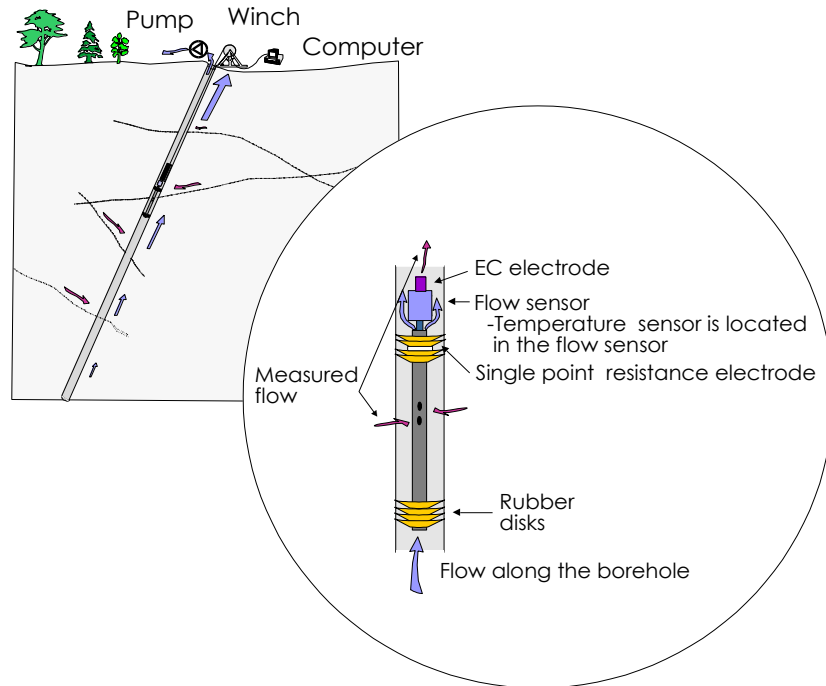

Figure 1. Schematic of the probe used in the PFL DIFF.
- The electrical conductivity (EC) of both drillhole water and fracture-specific water. The electrode used in EC measurements is located at the top of the flow sensor, see Figure 1.
- The single point resistance (SPR) of the drillhole wall (grounding resistance). The electrode used for SPR measurements is located between the uppermost rubber sealing disks, see Figure 1, and is used for the high-resolution depth determination of fractures and geological structures.